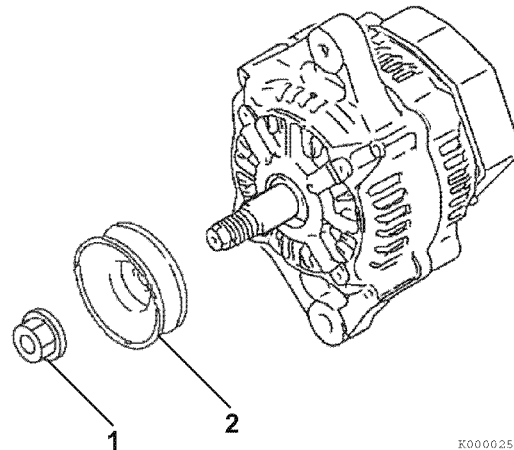

Figure 12-5
1. Remove the nut (Figure 12-5, (1)) from the shaft of the rotor assembly. Remove the pulley (Figure 12-5, (2)).